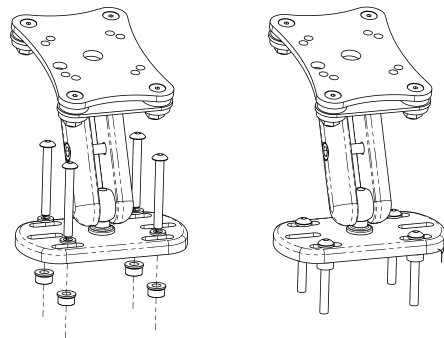

Figure 1
3. If the brake reservoir has 4 screws, use the appropriate Hex Key to fasten the Base Plate to the brake reservoir cover with the appropriate length M4 Screws, M4 Lock Washers, and M4 Spacers, or M5 Screws, M5 Lock Washers, and M5 Spacers as shown in Figure 1.